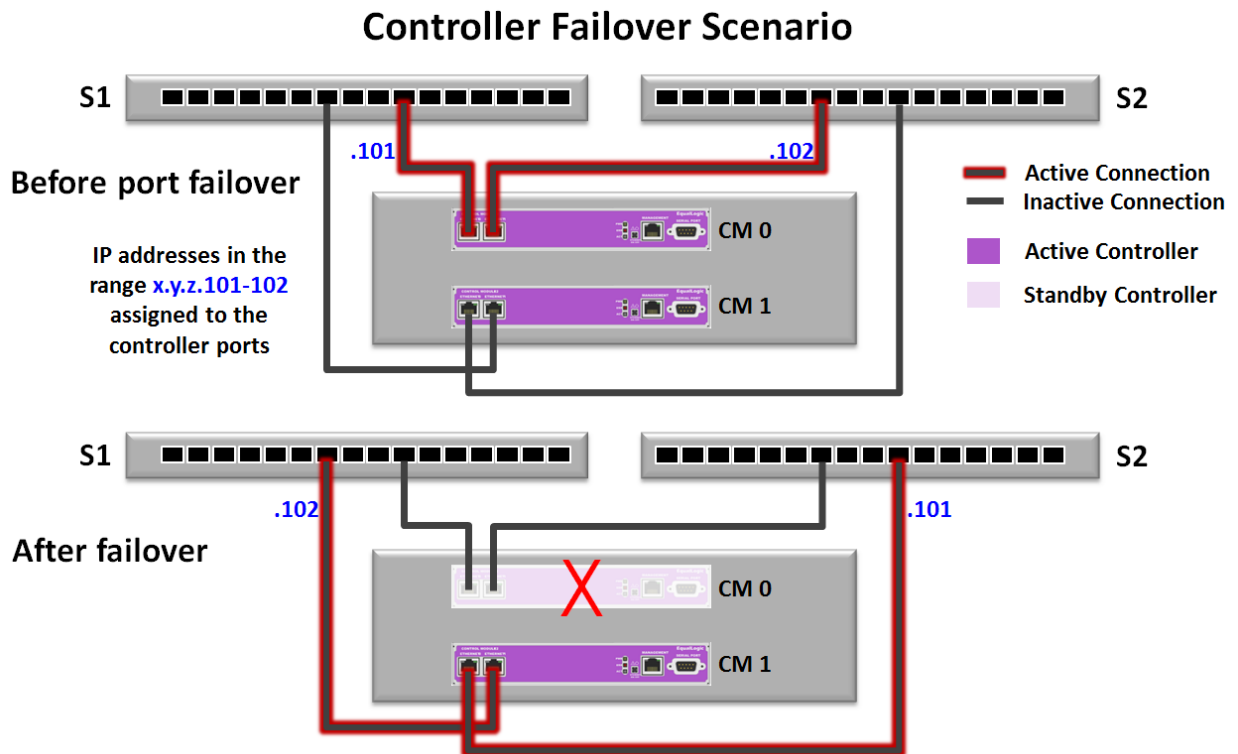

Figure 11 Controller failover process and optimal connection paths
It is important to ensure that ports from each controller are connected to at least two different switches. This will prevent a switch failure from also disabling all paths between a host and its connected volumes. We illustrate controller failover behavior for the PS4200/PS4100 family controller in Figure 11. Controller failover behavior for the PS6200/PS6100 (4 port) controller family is identical.
**Note:** To prevent a switch failure from also disabling all paths between a host and its connected volumes, you should make sure that ports from each controller are connected to at least two different switches. You should also split vertical port pair connections between two switches to ensure 100% bandwidth capability is maintained in the event of a vertical port failover event. Both of these guidelines are illustrated in Figure 11.